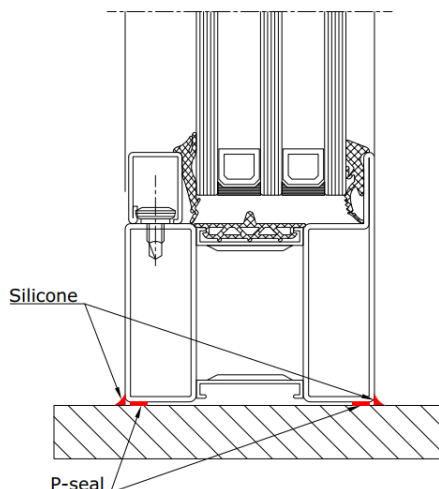

Figure 6 Adding silicone and P-seals
4. If necessary, two rows of P-seals can be glued under the frame for additional sealing (Figure 6).
12. Use silicone Soudaflex 40FC, SOUDAL Silirub 2/S or Penosil General Silicone for the threshold and/or wall section (Figure 6).